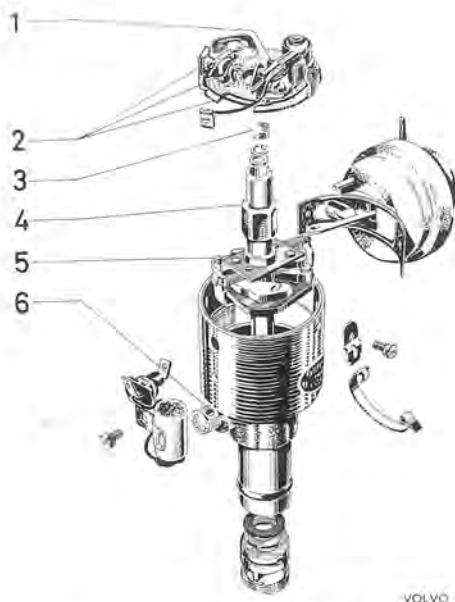

Fig. 3-57. Lubricating scheme for distributor
1. Lubricate the distributor parts according to the instructions given in Fig. 3-57.
4. Lubricate the distributor according to the instructions given in Fig. 3-57.